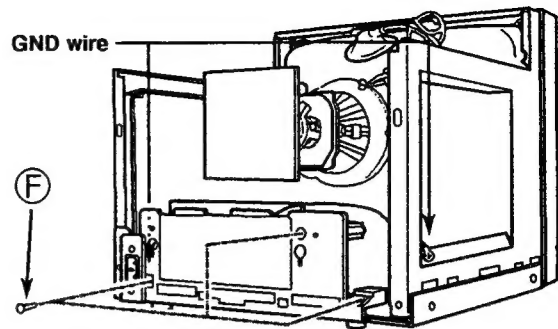

Fig. 3
- (1) Remove the three screws ⑥ in Fig. 3.
- (2) Remove the GND wire.
- (3) When the two hooks between the Main and Input PCBs are removed, the Input PCB will be dismounted.
- (4) Dismount the connectors, etc. as required.